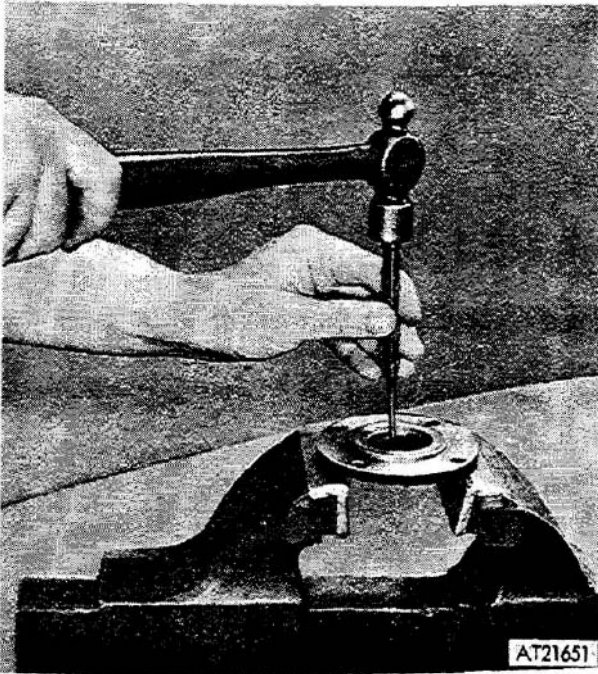

Figure 4-27. Removing oil seal.
(2) Remove setscrew (21) from clutch yoke (20). Slide clutch yoke on clutch yoke shaft (5) and remove key (23). Remove shaft from clutch lever housing (3). Remove packings (4 and 6) from shaft. Remove clutch yoke from housing.
(3) Disconnect retainer cap (10) and cap gasket (11) from power takeoff housing (16) by removing screw (7) and lock washer (8).
(4) Remove seal (9) from retainer cap (10) as shown in figure 4-27.